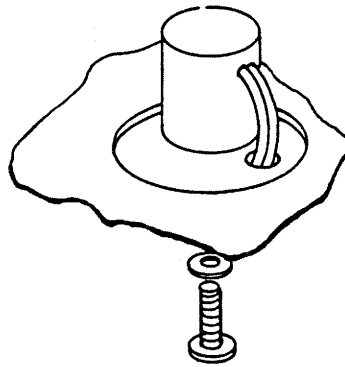

Figure 4-22 Tape-In-Channel Emitter Assembly and Tape-In-Channel Sensor Assembly
4.3.26 TAPE-IN-CHANNEL EMITTER ASSEMBLY (Figure 4-22)
4.3.27 TAPE-IN-CHANNEL SENSOR ASSEMBLY (Figure 4-22)